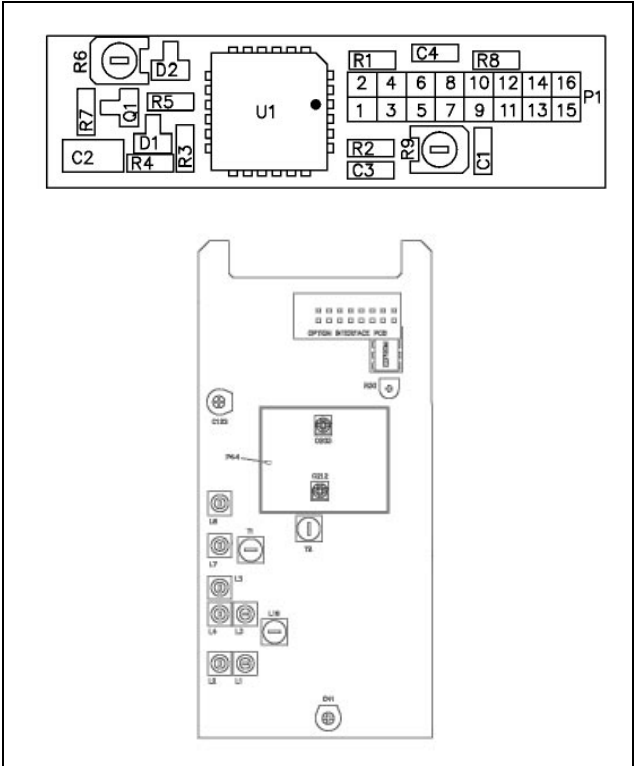

Figure 2 - Alignment Points
Before the *Monogram Series* Model MGP 300 Low Band Portable Radio Unit is placed into service, the user's operating configuration must be programmed into the EEPROM and the transmit and receive sections of the radio adjusted for optimum performance. If the optional Channel Guard tone decoder/encoder is installed and the radio programmed for Channel Guard operation, the Channel Guard must be adjusted. Refer to Figure 2 for alignment locations referenced in the following procedures.
5. Locate and carefully remove the optional Channel Guard printed circuit board (see Figure 2 for location).